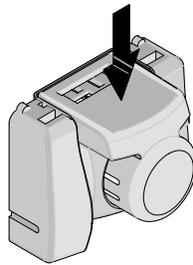

Figure 7B
5. Press the red insert down as far as it will go as shown in Figure 7B.
6. Holding onto the lower part of the locator with your thumb and index finger, insert the locator top hooks (2) into the hand tool top slots.